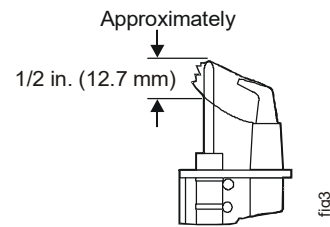

Figure 6: Flame Position
- A flame approximately 1/2 in (12.7 mm) high must surround the thermocouple tip (Figure 6).